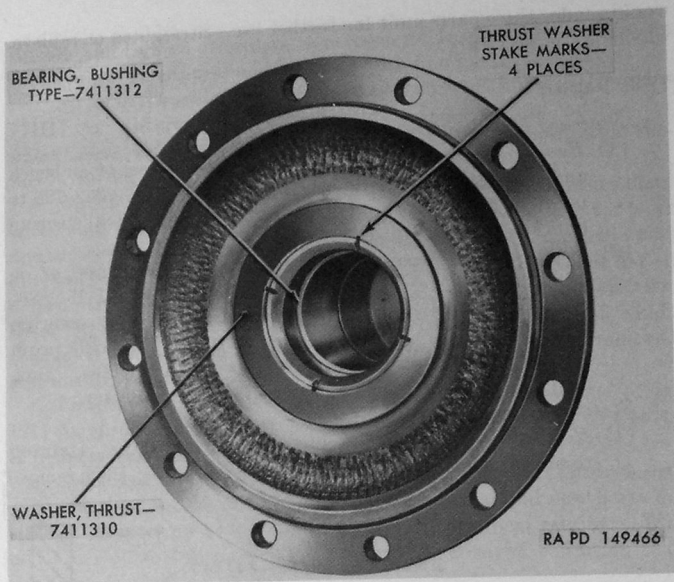

Figure 119. Steering knuckle bushing type bearing and thrust washer installed.
- (1) *Removal.*—Use sharp chisel to remove metal stakes retaining thrust washer (fig. 119) to steering knuckle; then remove
- (2) *Installation.*—With steering knuckle standing on outer end on bench, position thrust washer (H) at inside flange of steering knuckle, with chamfered outer edge toward knuckle. Use block of hard wood or plastic hammer to drive thrust washer into place until fully seated. Use sharp chisel and stake steering knuckle (fig. 119) at four places to hold thrust washer. Use fine stone to remove any metal from face of thrust washer as a result of staking operation.